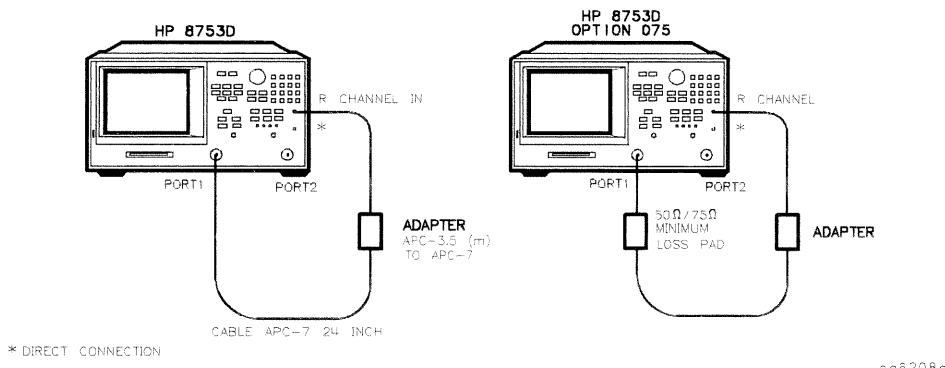

Figure 2-18. Minimum R Channel Level Test Setup
1. Connect the equipment as shown in Figure 2-18.